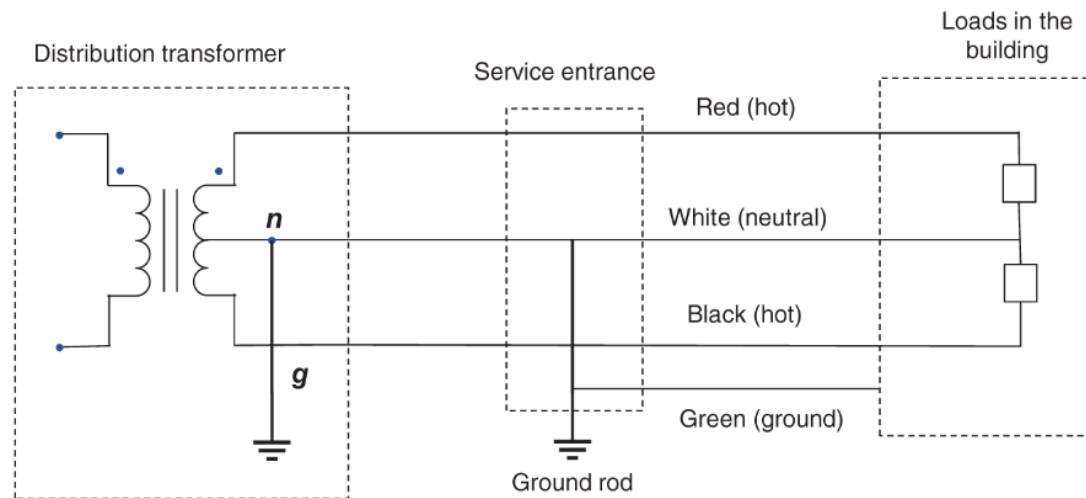

Figure 10.5 Safety ground for homes and buildings.
- Figure 10.5 shows the circuit diagram for safety ground for homes where the ground rod provides connection to ground at the service entrance. The green ground wire connected to the ground rod goes to all the lights, fans, and other loads as well as all receptacles in the house or building.